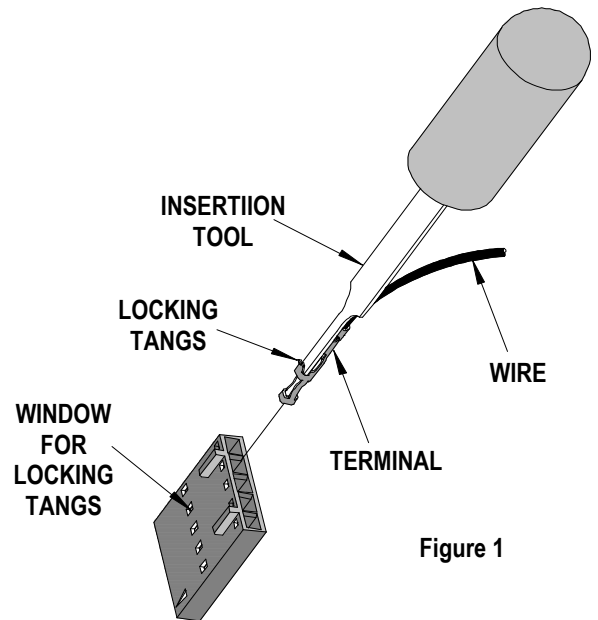

Figure 1
1. To properly use this tool, with the flat side facing up, place the step of the tool into the terminal under the locking tangs (See Figure 1). Push the terminal into the housing until the locking tangs are visible through the window. The terminal then should be locked in place.